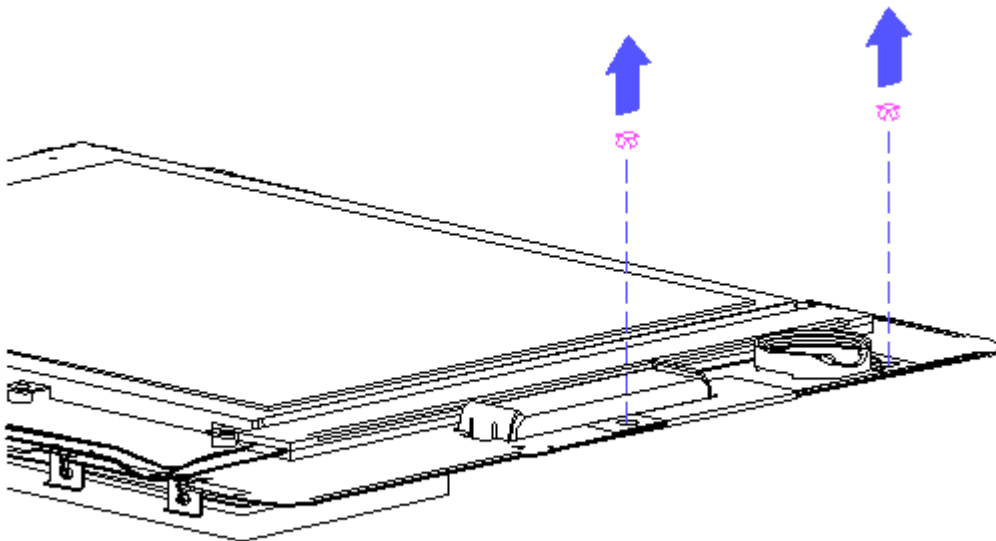

Figure 3-45. Removing the Snap Fasteners
6. Remove the two nylon snap fasteners that secure the speaker cable to the chassis (Figure 3-45).